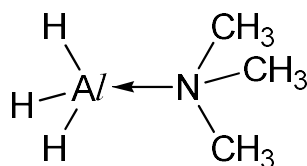

Fig 6.1
- (b) (i) The structure of the product compound, $(\text{CH}_3)_3\text{NAlH}_3$ is shown in **Fig 6.1**.
- (iii) Boron trifluoride reacts with ammonia to form a product compound similar to the compound shown in **Fig 6.1**.